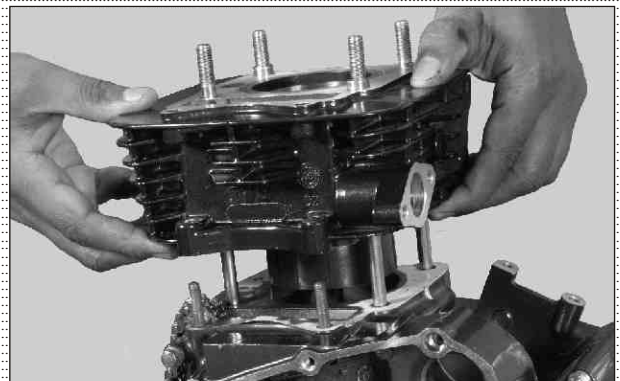

Fig. 3.85
- Gently pull out cylinder complete by holding the connecting rod by hand to avoid any damages to the piston assembly and crankcase. (Fig. 3.85)